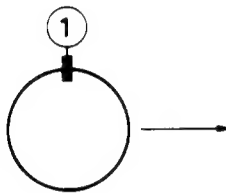
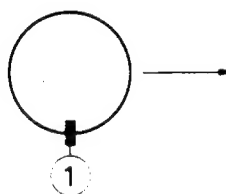

Fig. 4a
Fig. 5a
- Eliminate the crossing of the central horizontal blue and red line and the crossing of the central vertical blue and red line by vertically tilting the deflection unit. If the deflection unit is in the correct position, then place rubber wedge ①, without removing the paper strip, at the top (figure 4a) or at the bottom (figure 5a).
Figure 4a applies when the unit is tilted upwards and figure 5a applies when the unit is tilted downwards.